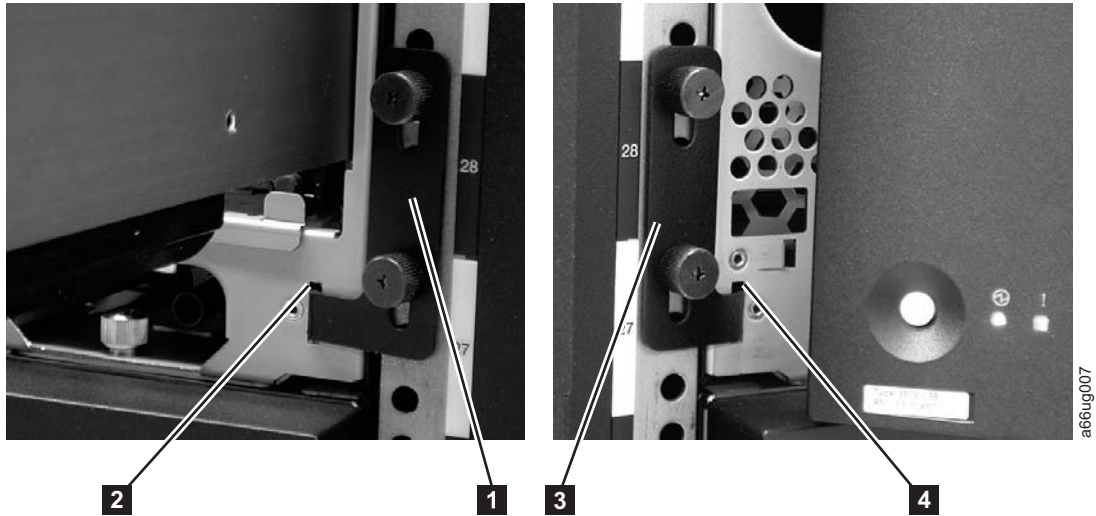

Figure 3-25. Installing the rack ears on a control module
1. Install the right rack ear (**2** in Figure 3-25 on page 3-27).
- a. At the bottom right of the I/O Station position on each library module, there is a slot (**2** in Figure 3-25). Insert the right rack ear (**1** in Figure 3-25 and **7** in Figure 3-11 on page 3-12) into the slot.
2. Install the left rack ear (**3** in Figure 3-25 and **6** in Figure 3-11 on page 3-12).
- b. Grasp the hinged side of the door and, while pulling on the door, push to the right to expose the slot (**4** in Figure 3-25) for the left rack ear .
- c. Insert the left rack ear (**3** in Figure 3-25) into the slot.